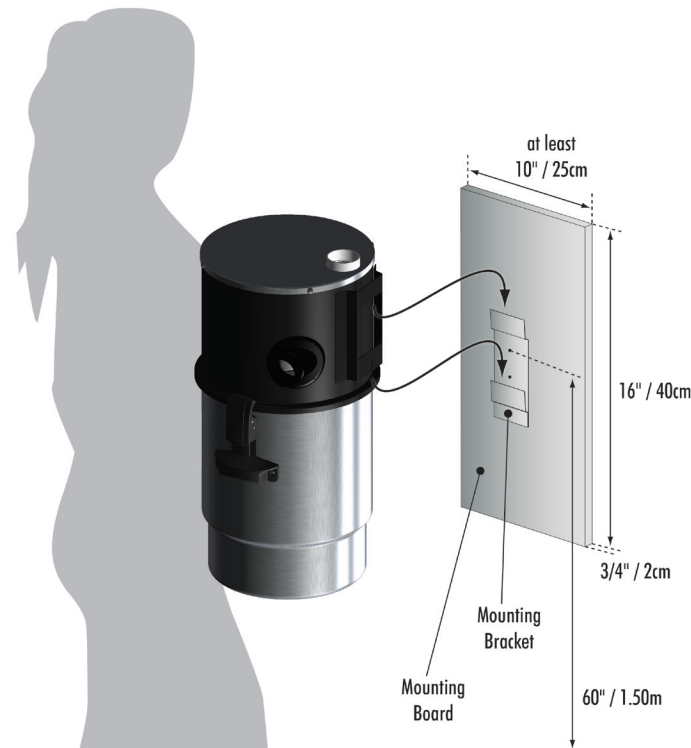

Fig. 1 Mounting the unit on the wall.
4. Insert the power unit bracket into the mounting bracket (Fig. 1).